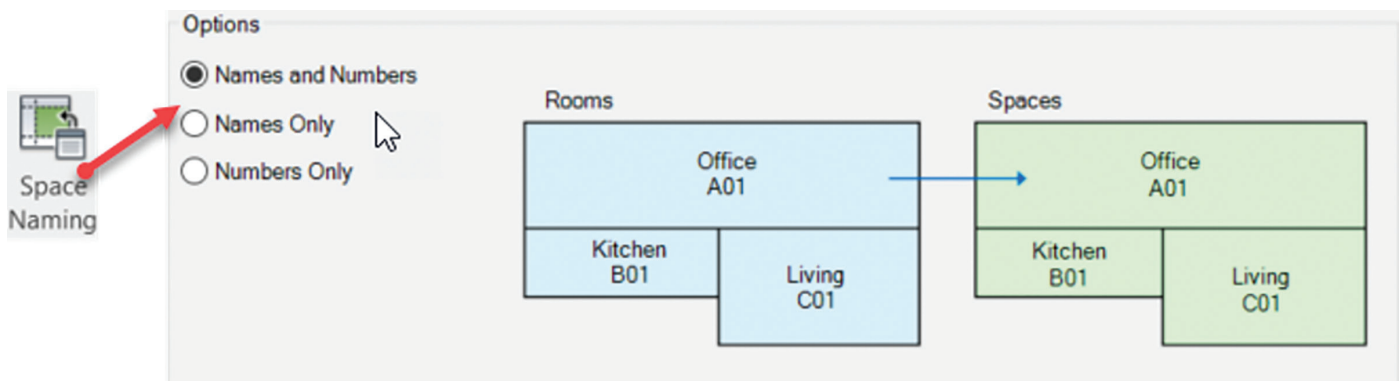

Figure 4
5. Select Names and Numbers (Figure 4).